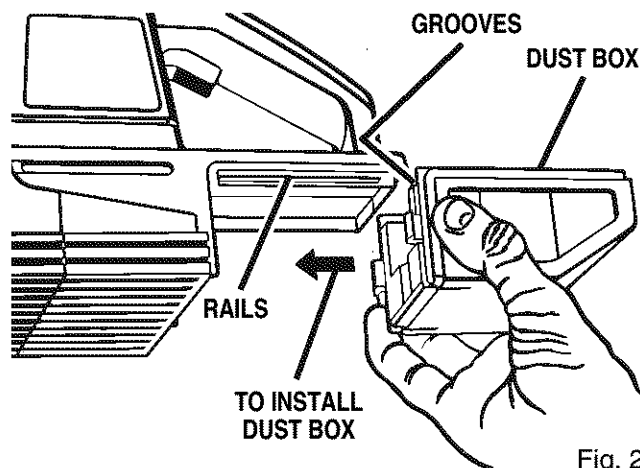

Fig. 23
See Figure 23.
- Slide dust box on plate joiner as shown by the arrow in figure 23. You will feel a soft click as the tabs snap into place.